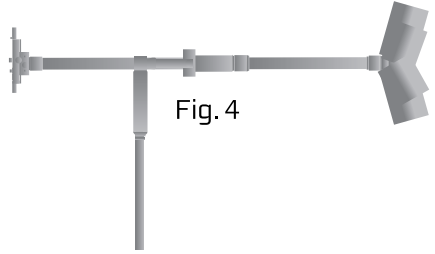

Fig. 4
1. Balance the stabilizer on the horizontal plane by adjusting the height of the gimbal and the length of the center-column extension. (Fig. 4)